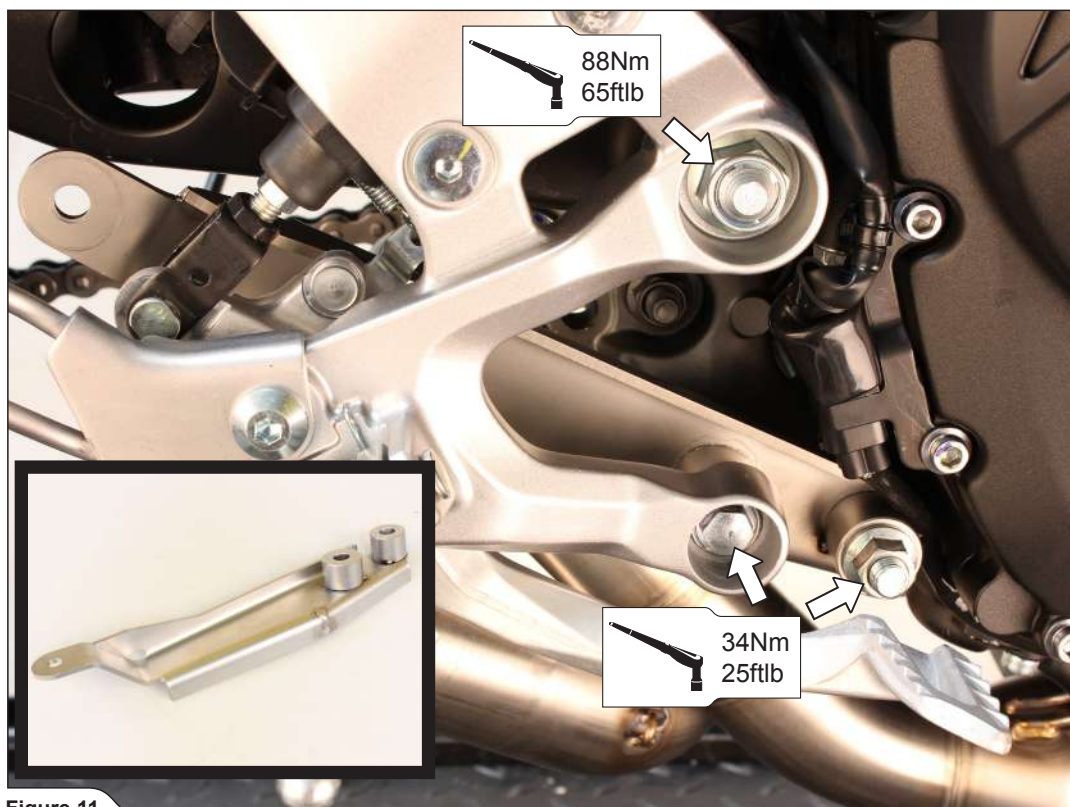

Figure 11
4. Install the muffler's bracket from Akrapovič installation kit as shown, using stock bolt and nut; tighten the swing arm's pivot nut to the specified torque (**Figure 11**).